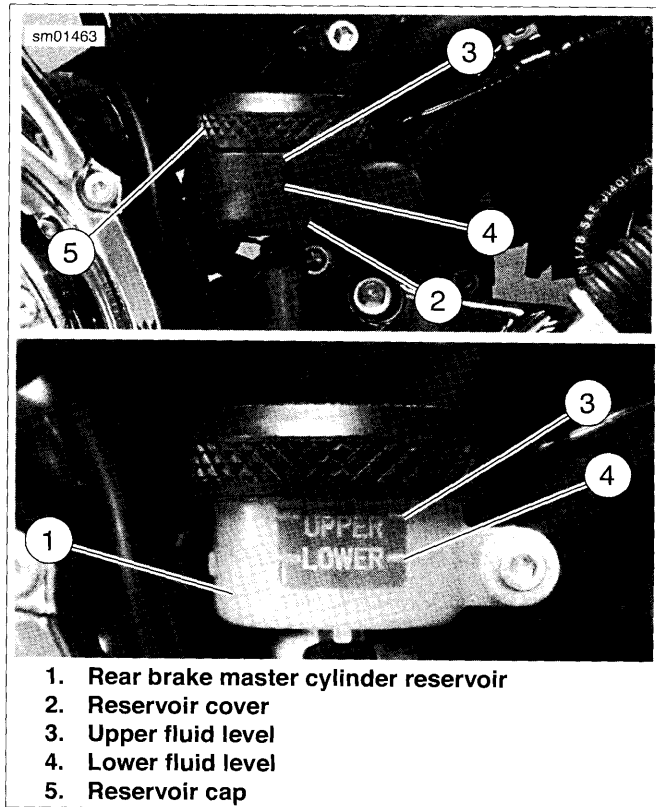

Figure 2-108. Rear Brake Master Cylinder Reservoir
- *See Figure 2-108. Reservoir cover (2) may be removed from rear brake master cylinder reservoir (1) to more easily verify fluid level in reservoir.*
8. See Figure 2-108. If desired, remove reservoir cover: grasp cover (2) and gently pull straight out from reservoir (1).
9. Remove rear brake master cylinder reservoir cap (5). Add HARLEY-DAVIDSON D.O.T. 4 BRAKE FLUID to reservoir until fluid reaches upper fluid level (3). Do not overfill reservoir. Do not reuse brake fluid.